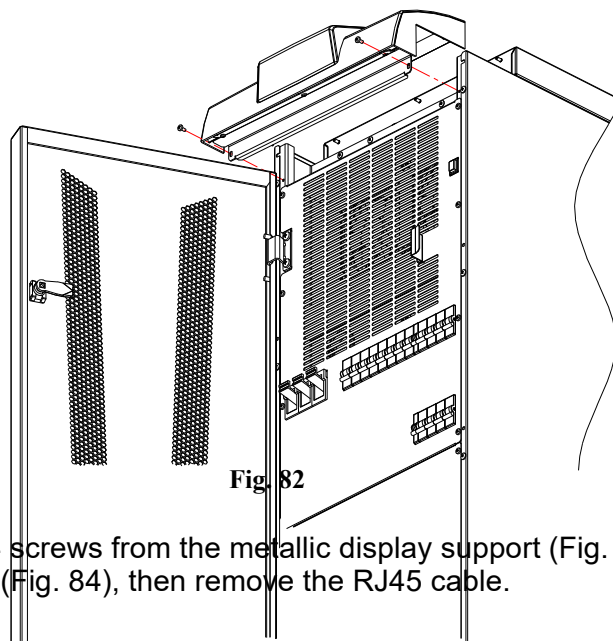

Fig. 82
- **CPT/ACT:** in order to remove the display, unscrew the n°2 screws from the metallic support under the display (Fig. 82). Pull out the display and then remove the RJ45 cable.